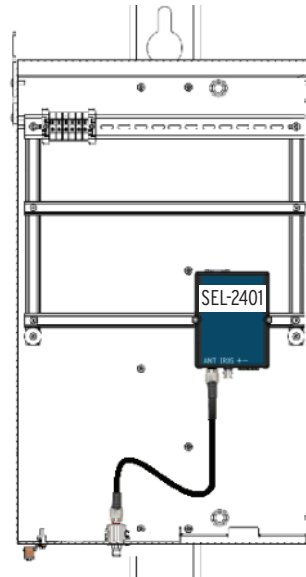

Figure 12 Install Antenna Cable
Step 17. Connect the antenna cable to the **ANT** terminal on the SEL-2401. Route the cable down to the bottom of the cabinet and attach the other end to the surge arrestor. See *Figure 12*.